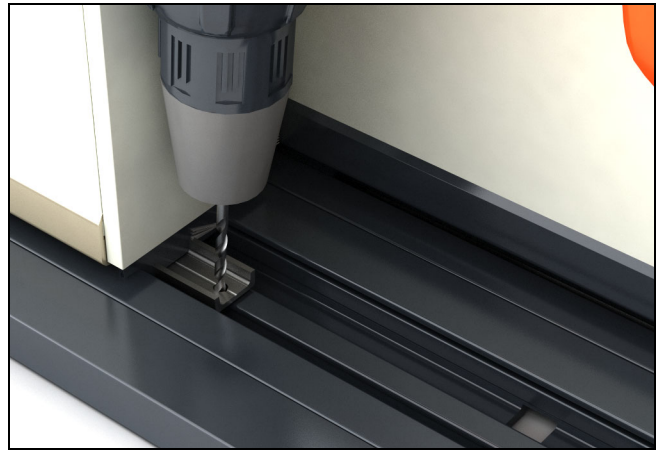

Figure 130
8. Pre-drill the sill using bracket as a guide and 1/8" (3) drill bit. **Do not puncture pan.** Fasten using #8 x 3/8" pan head screws. See figure 130.